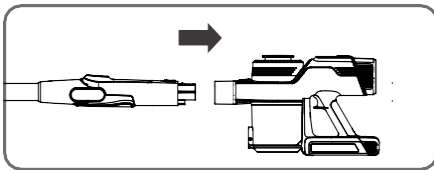

Figure 1
- Push the end of the aluminum tube horizontally into the vacuum hole of the main housing making sure it is fully seated and firmly seated. The tube clicks audibly into place to confirm installation. (Figure 1)